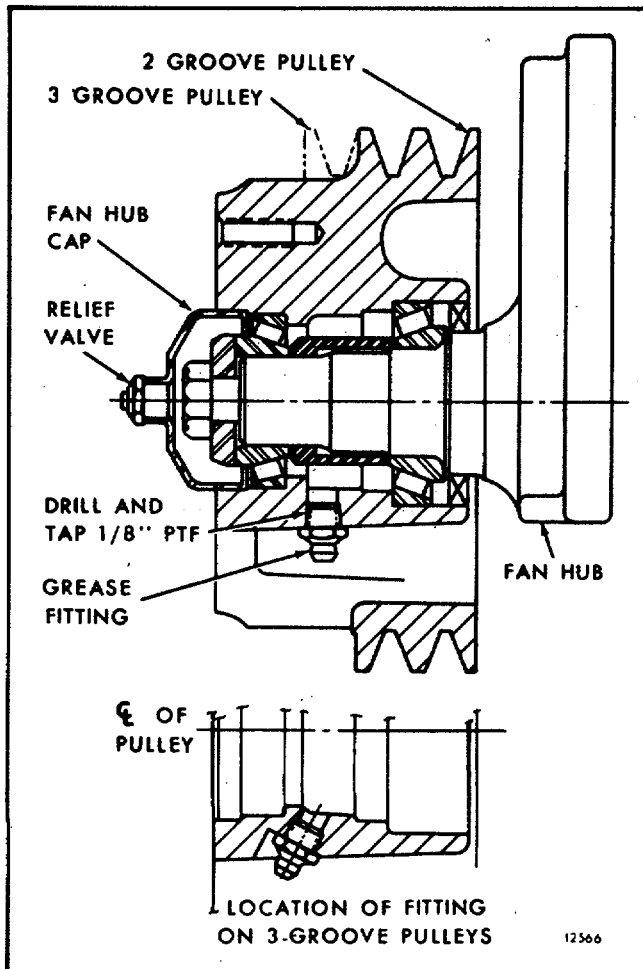

FIG. 2 Location of Fan Hub Grease Fitting and Relief Valve
2. Drill and tap the fan hub, at the location shown in Fig. 2, to accept a 1/8"PTF x 1/16" threaded lubricator fitting. Clean the hub to remove any metal chips.
4. Install a *new* fan hub cap which is threaded for a relief valve (Fig. 2).